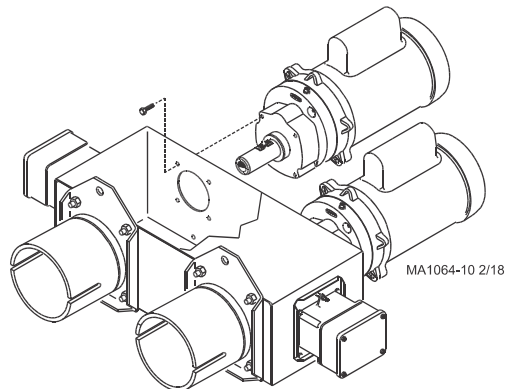

Figure 3. Mounting the Power Units
4. Mount the Power Units (not supplied) on the Control Unit Body, opposite the Anchor Tube Weldments, using 5/16-18 hardware. (See **Figure 3.**)